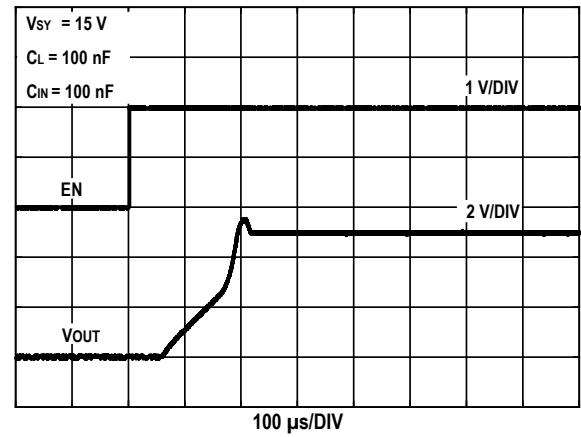
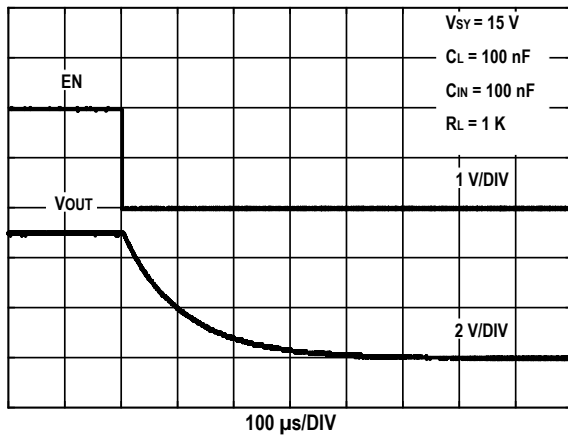

Figure 11. Enable Response
Figure 12. Disable Response
For power consumption sensitive applications, ADRXXX offers useful shut down feature. The part burns just $10\ \mu\text{A}$ in shutdown mode, the shutdown procedure can be found in Figure 11 and Figure 12. Shutdown mode is controlled by pin 3 (EN). The voltage threshold of this pin is around $1.2\ \text{V}$ and compatible with CMOS/TTL logic.